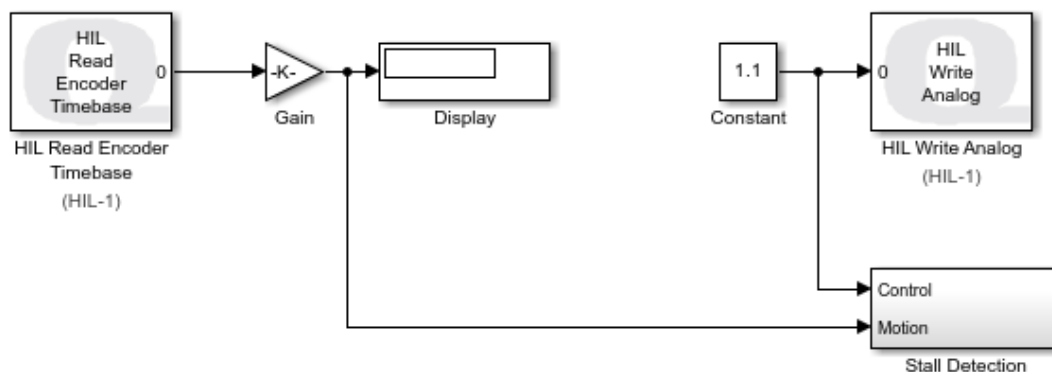
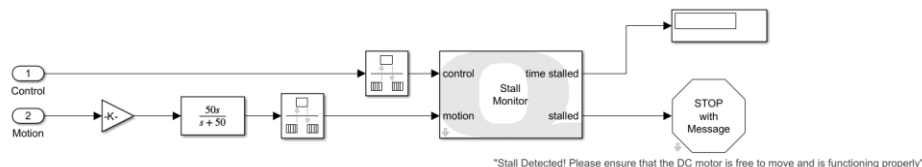

Figure 1. Simulink model used with QUARC to drive motor and read angle on Qube-Servo 3
Figure 4. Stall Detection subsystem
In this lab, we will make a **Simulink** model using **QUARC** blocks to drive the DC motor and then measure its corresponding angle – as shown in Figure 1.
3. Connect the **HIL Read Encoder Timebase** block as shown in figure 1, the HIL Write Analog should be missing.
2. Connect the **Constant** and **HIL Write Analog** blocks together, as shown in Figure 1.
Note: There is a **Stall Detection** subsystem in Figure 1 and Figure 4. This block will monitor the applied voltage and speed of the DC motor to ensure that it does not stall. If the motor is motionless for more than 20 seconds with an applied voltage of over ± 5 V, the simulation is halted to prevent the Qube-Servo 3 from overheating and subsequent potential damage to the motor.